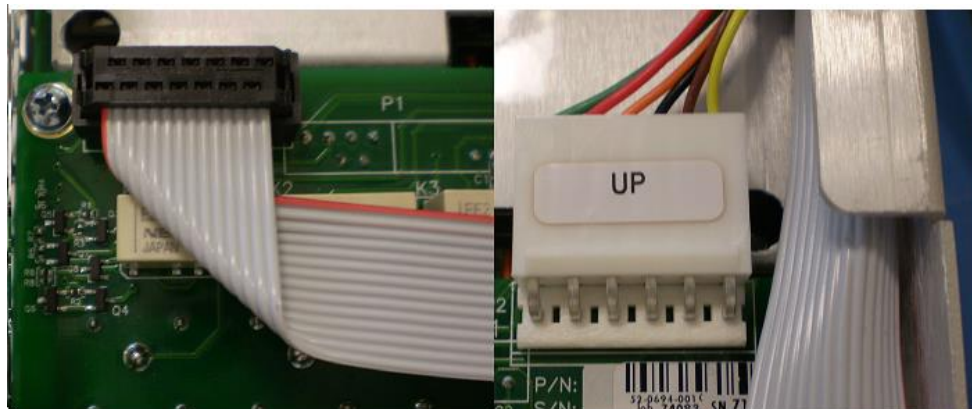

FIGURE 9-3: DMM CABLE INSTALLATION, CONNECTOR ORIENTATION
- 5) Make sure the cable assemblies are inserted correctly, refer to Figure 9-3 for correct orientation.